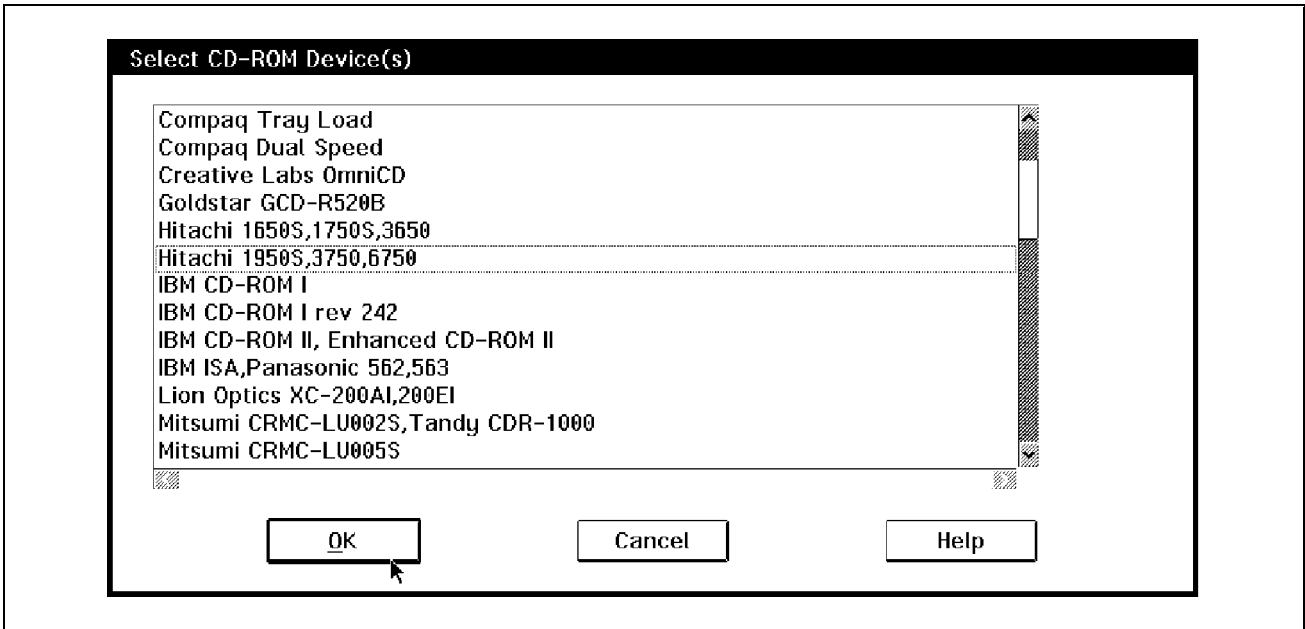

Figure 51. Select CD-ROM Device Listing
5. You are presented with a list of supported CD-ROM devices as shown in Figure 51 on page 163. If your CD-ROM device is not listed, you must obtain the device driver from the manufacturer or from a BBS. After you have obtained the device driver, you may select **OTHER** from the list of drivers.